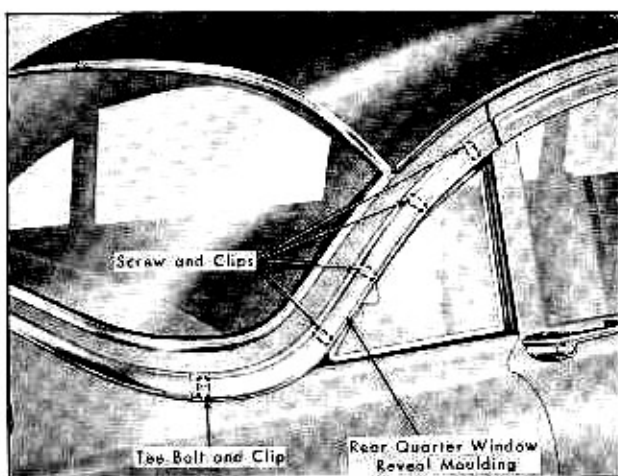

Fig. 3-8 Reveal Molding Attaching Points
3. Remove molding attaching screws and remove molding. Fig. 3-8.